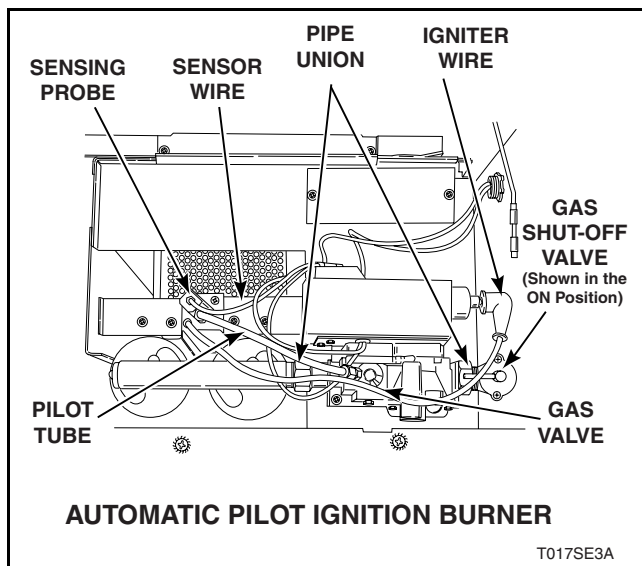

Figure 17
- Close gas shut-off valve. Refer to *Figure 17*.
- b. Close gas shut-off valve. Refer to *Figure 17*.